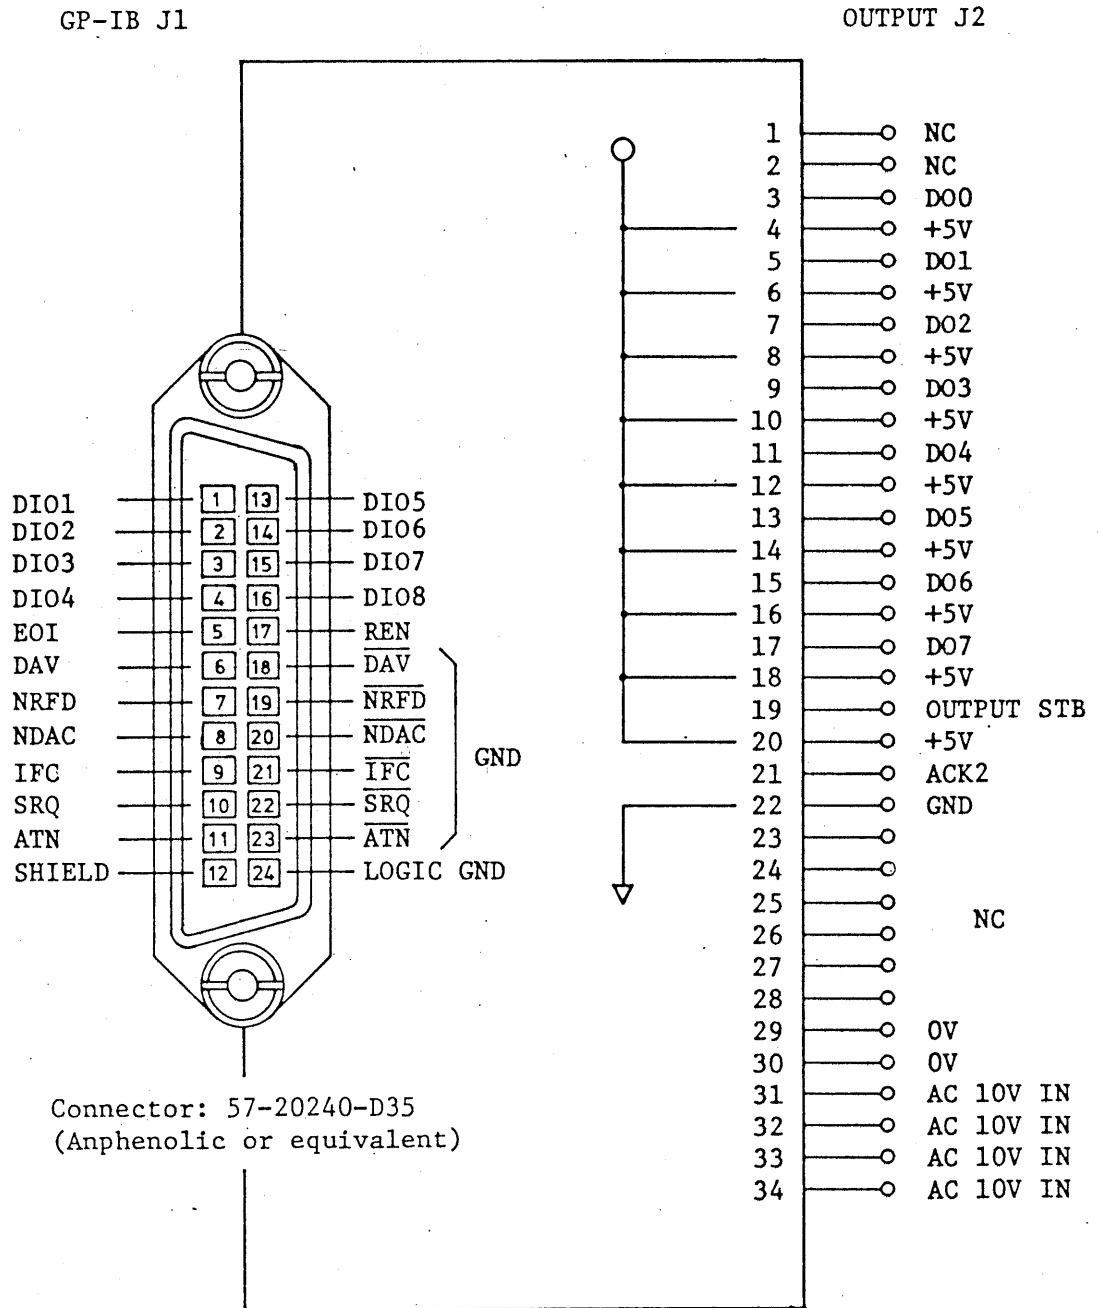

Figure 3-7
(1) GP-IB Input Connector J1 (GP-IB J1)
-Anphenolic type 24 pin connector according to GP-IB connector IEEE-488-1975 specifications. The GP-IB bus cable from the computer is connected here. When using an IEC standard connector, an IEC-IEEE conversion connector should be utilized. (Refer to Fig. 3-7)
(2) Output Connector J2 (OUTPUT J2)
(3) Address Setting Switch